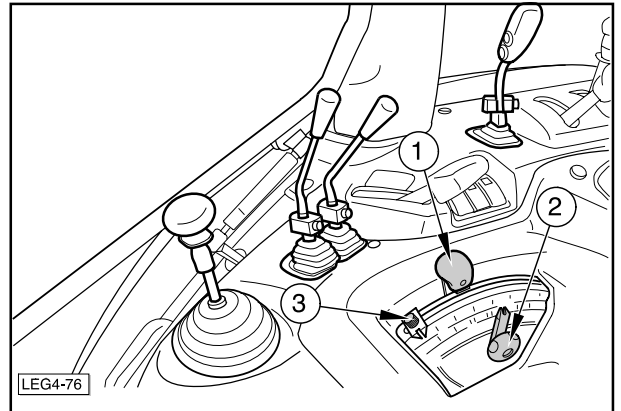

Fig.4-83
To lower the implement, fully depress the button (2), The lift arms will lower to the stop previously set by the control lever (1) Fig. 4-83.
Use of controls (Fig. 4-83)